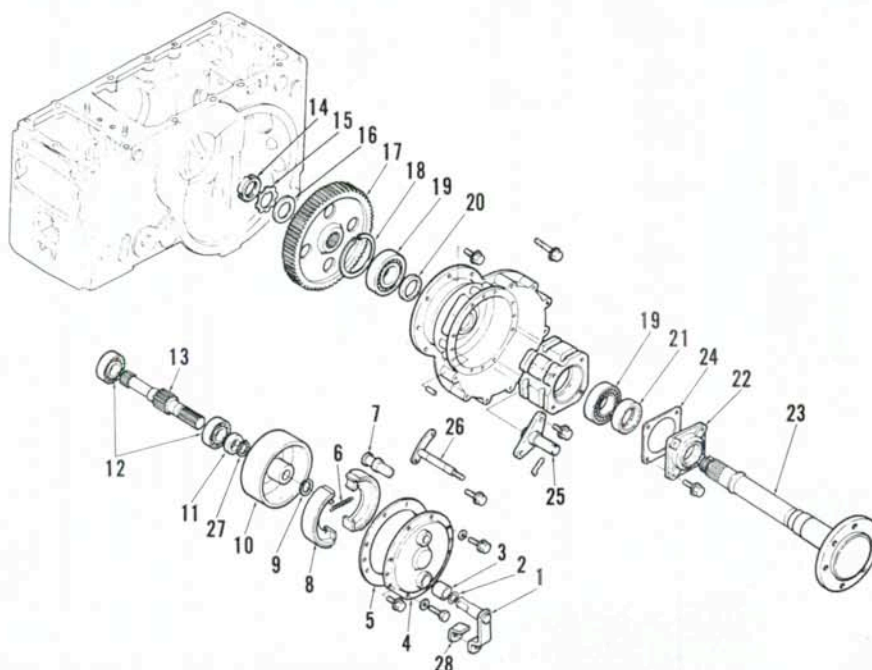

Fig. 232—Exploded view of final drive assembly used on 1300, 1310, 1500, 1510 and 1710 models.
155. OVERHAUL. To disassemble final drive unit after it is removed, proceed as follows: Remove nut (14—Fig. 232) from axle shaft. Withdraw final drive gear (17) and spacer (16) from axle shaft. Remove cap screws attaching re-